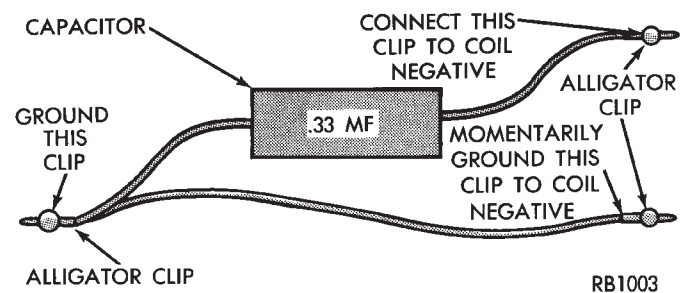

Fig. 21 Special Jumper Ground-to-Coil Negative Terminal
(6) Make the special jumper shown in Figure 21. Using the jumper, **momentarily** ground terminal-19 of the 60-way connector. A spark should be generated at the coil cable when the ground is removed.